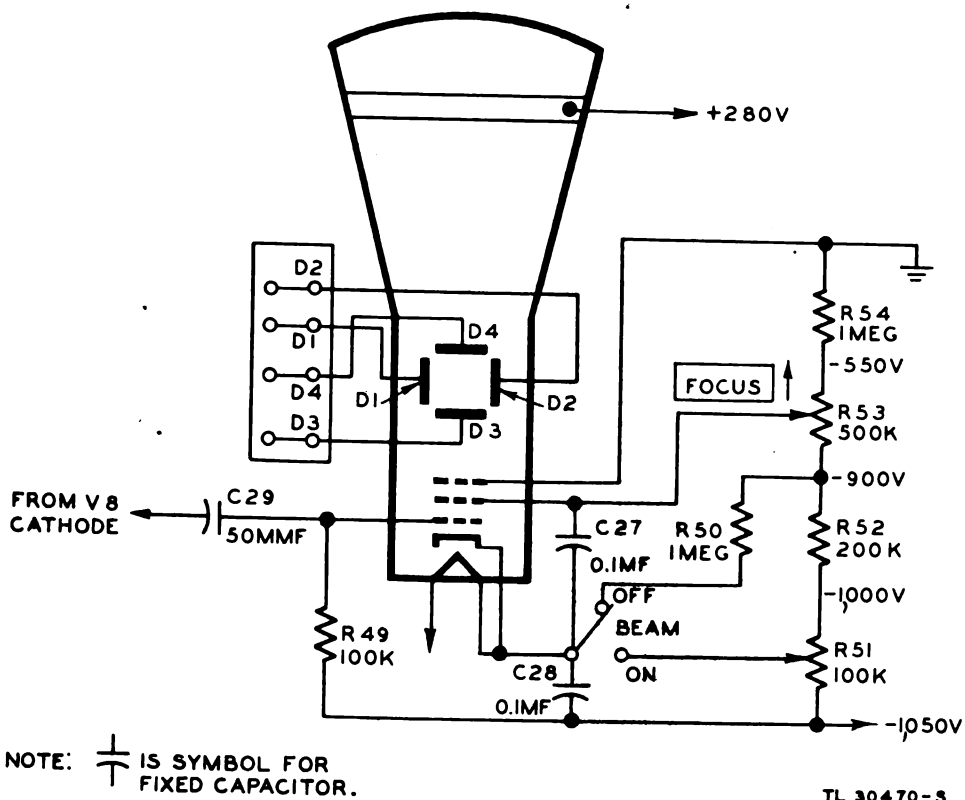

Figure 11. Cathode-ray tube circuit, simplified schematic diagram.
(1) The electron-emitting portion of the cathode-ray tube consists of a cylindrical cathode indirectly heated by a heater or filament mounted inside it. The end of the cathode is coated with an electron-emitting substance.
(2) The flow of electrons from the cathode is controlled by the grid. This is another cylinder which covers the cathode and has a hole in the end opposite the end of the cathode. The charge on this grid regulates the flow of electrons, and the electrostatic field between grid and cathode helps to form the stream of electrons into a beam.
(3) After leaving the grid, the beam of electrons passes through the first and second anodes. These are cylindrical elements open at both ends. The first anode is the focusing anode and is at a lower potential than the second anode which is the accelerating anode. The electrostatic field between these two anodes further focuses the electron stream into a beam, and the voltage on the focusing anode is variable so that the beam may be brought to a focus directly on the fluorescent screen.
(4) The deflecting plates are two pairs of parallel plates; each pair is at right angles to the other. When a difference of potential is applied across a pair of these plates, the beam (which is a stream of electrons with negative charge) is deflected toward the more positive plate, causing the spot on the fluorescent screen to move to one side or the other or up or down. By applying varying voltages to both pairs of plates, the beam may be made to trace various patterns on the screen.
(5) The deflecting plates are connected so that push-pull signals are applied to each pair of plates; that is, when one plate goes positive, the opposite plate goes negative.
(6) The aquadag coating on the inside of the glass envelope of the tube constitutes the final or intensifying anode. The electron stream is initially accelerated by the large difference in potential between the cathode and the second anode. After being deflected, the beam is further accelerated by the difference in potential between the second anode and the intensifying anode.
b. Cathode-ray Tube Circuit of Oscilloscope I-245-B (fig. 11).
(1) The accelerating voltage between cathode and second anode of the cathode-ray tube and the various intermediate voltages needed are supplied from the voltage divider consisting of R51 to R54.
(2) The grid is the most negative element in the tube. It is connected to $-1,050$ volts from the high-voltage power supply. Capacitor C29 and resistor R49 form a differentiating circuit which applies a cut-off voltage to the grid during the return trace of the saw-tooth sweep. The action of this circuit is explained in connection with the sweep circuit in paragraph 32d below.
(3) With the BEAM switch ON, the cathode is connected to the center arm of R51, the INTENSITY potentiometer. Varying this control varies the bias voltage between the grid and cathode. This varies the flow of electrons from the cathode and changes the intensity of the spot or line on the screen.
(4) When the BEAM switch is turned OFF, the cathode is connected to the junction of R52 and R53. This places a fixed bias of -150 volts between grid and cathode and cuts off the electron stream entirely.
(5) The focusing anode is connected to the center tap of R53, the FOCUS control. This control varies the voltage between the focusing and accelerating anodes. The accelerating anode and the positive side of the high-voltage power supply are grounded.
(6) The intensifying anode is connected to $+280$ volts. This voltage accelerates the electron beam further after it has been deflected. The total accelerating potential is thus approximately